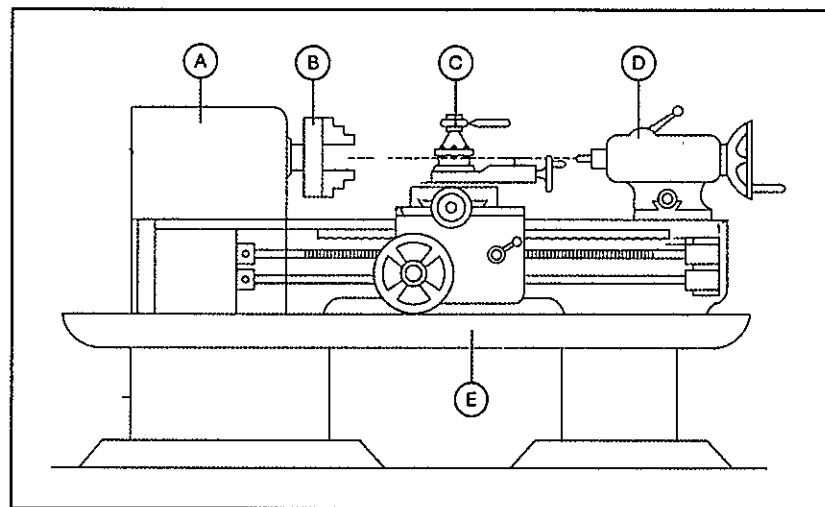

Figure 2a / Rajah 2a
- (a) Name the parts labeled **A, B, C, D** and **E** of the lathe machine in **Figure 2a** below.